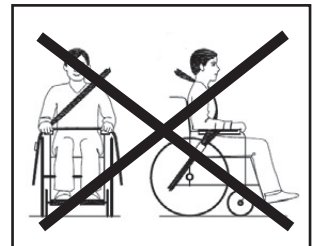

Figure 7
- The belt must not be resting against armchair components (like armrests or wheels) as a result of which it is no longer fully supporting the body of the user (see figure 7).